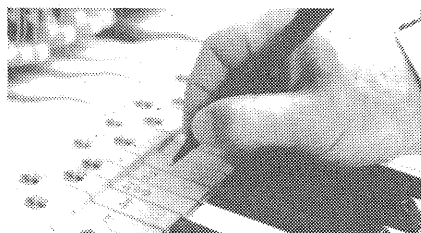

FIGURE 1-18 Number the keys from 1 to 88.
Unless the keys are numbered and the numbers are CLEARLY legible, number the keys from 1 to 88, starting from the first key (1) on the LEFT end to the last Key (88) on the RIGHT as shown in FIGURE 1-18 below.